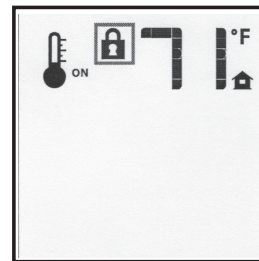

Figure 34 - Remote Control Displaying Room Temperature and "Lock" Icon
1. To activate this function, press the **MODE** key and the UP arrow at the same time. The display on the handset will change to show a "lock" icon (See Figure 34).